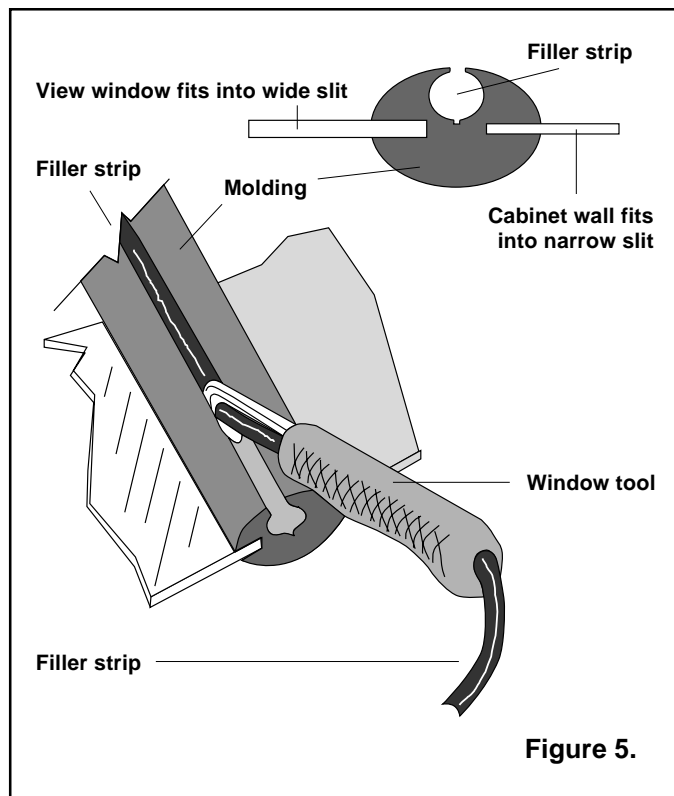

Figure 5.
5.7 Window Replacement (Figure 5)